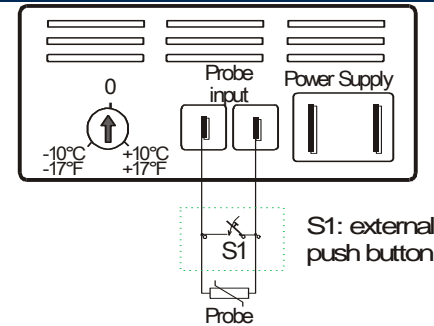

Fig.2
## 5. EXTERNAL PUSH-BUTTON CONNECTION (FIG.2)
2. Connect the push button in parallel with the probe as shown in Fig.2.
## 5. COLLEGAMENTO PULSANTE ESTERNO (FIG.2)